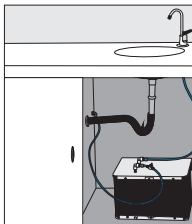
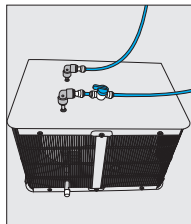

Figure 7
Figure 8
4. To fill the tank, open sink faucet first (Figure 7), then turn on the water supply valve (Figure 8). Continue to purge the water until the initial bubbling (air) disappears and a continuous water stream is observed.